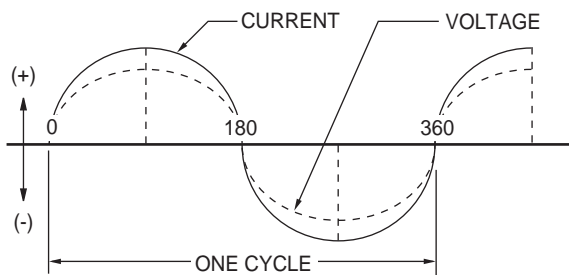

Figure 7. Alternating Current Sine Wave
As the ROTOR turns, its magnetic field cuts across the stationary STATOR. A voltage is induced into the STATOR windings. When the magnet's NORTH pole passes the STATOR, current flows in one direction. Current flows in the opposite direction when the magnet's SOUTH pole passes the STATOR. This constant reversal of current flow results in an alternating current (AC) waveform that can be diagrammed as shown in Figure 7.